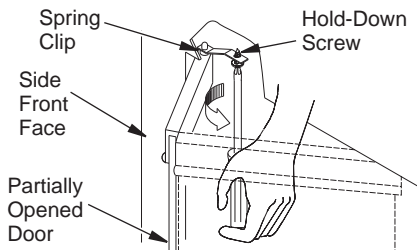

Figure 36 - Adjusting Glass Doors
7. To adjust doors, slide them partially open. Using a screwdriver, loosen hold-down screws in the spring clip (see Figure 36) and pivot plate.